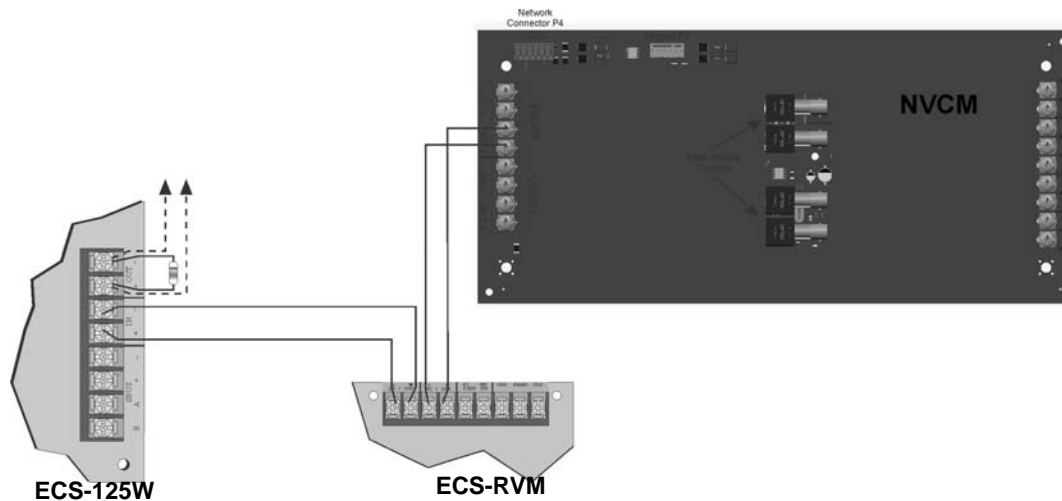

Figure 4-81 VBUS and ECS-125W Wiring for ECS-RVM using the ECS-NVCM
5. Connect the ECS-RVM to the VBUS, ECS-125W and ECS-NVCM. See Figure 4-81.